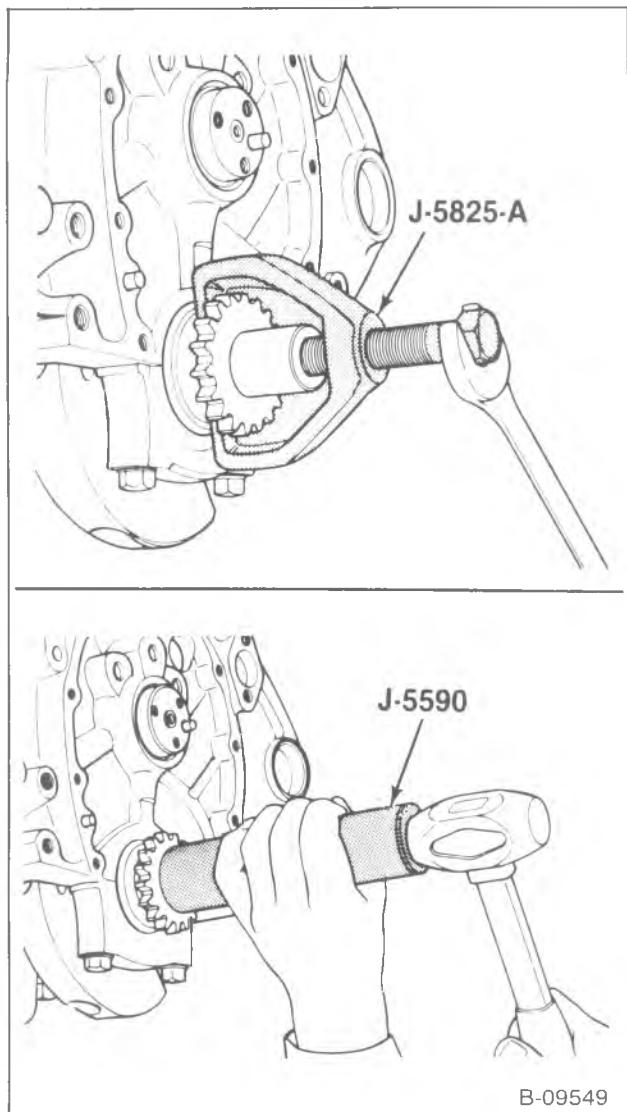

Figure 16—Replacing the Crankshaft Sprocket
**Remove or Disconnect (Figure 16)**
↔ Install or Connect (Figure 16)